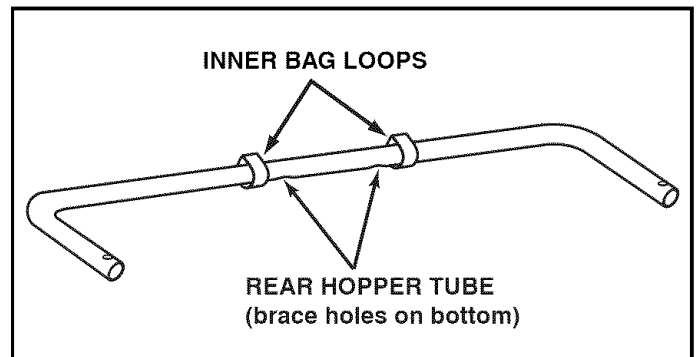

FIGURE 12
STEP 11: (SEE FIGURE 12 AND 13)